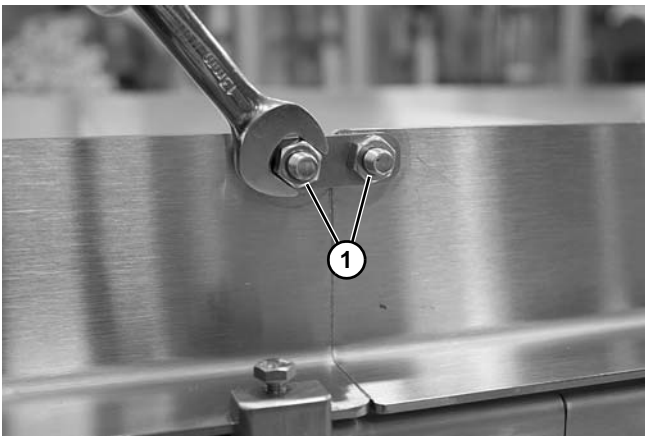

Figure 36
5. Install nuts (**Figure 36, item 1**) and tighten.